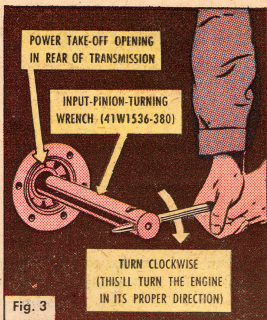

Fig. 3
3. From the transmission he removes the power-take-off cover and sticks in an input-turning wrench (41W1536-380) (Fig. 3).